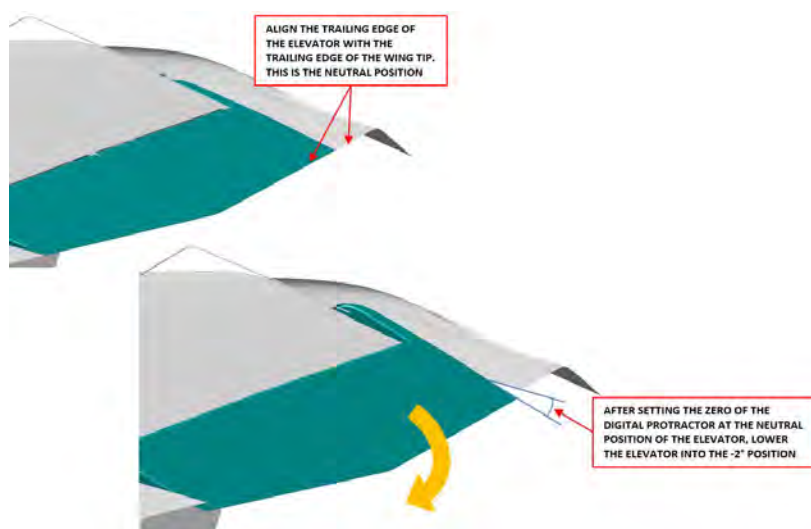

FIGURE 10-37
18. Adjust the rod end as necessary so that the rod end lines up with the elevator control horn while the elevator is in the -2° position. This will be the initial adjustment. If necessary, final adjustments will be made at a later step if required. See Figure 10-37.